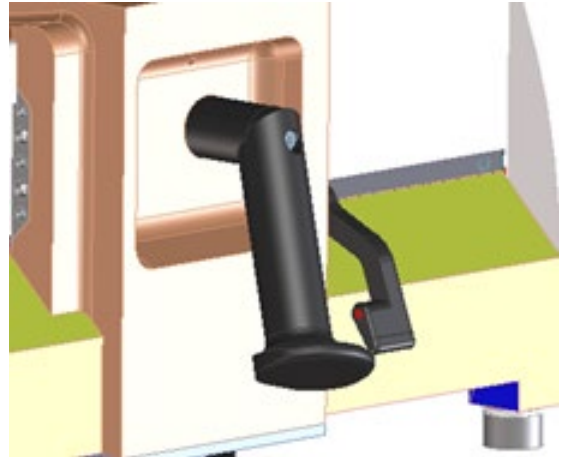

Figure 2
- Then the red marked lever surface becomes visible to show the clamped state (Figure 2).